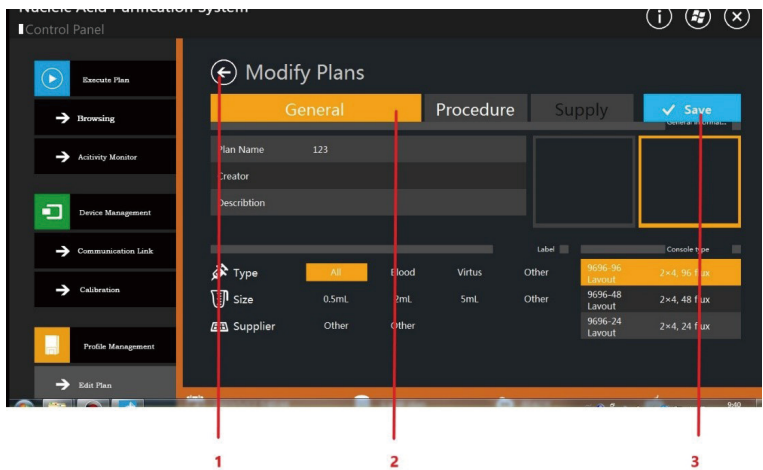

Figure 12. User Interface for Execution Plan Editing
Clicking the "Create" command button in archive management interface of execution plan, the central operation interface area of the main interface will present the execution plan editing interface for the user, as shown in Figure 12.
- ① in Figure 12 represents the button to abandon editing and return to the archive management interface of the execution plan. Clicking this button, the newly created execution plan will be canceled.
- ② in Figure 12 represents the content label bar of the execution plan. An execution plan consists of two aspects: basic information and experimental programs.
- ③ in Figure 12 represents the "Save" button of execution plan. After clicking this button, any modifications made by the user to the execution plan will be saved by the system.
Select and click the execution plan to be edited in the list box of the execution plan, and click the "Edit" command button in the archive management interface of the execution plan. The central operation interface area of the main interface presents the execution plan editing interface for the user, which is exactly the same as the interface style and usage mode of creating a new execution plan. As shown in Figure 12.